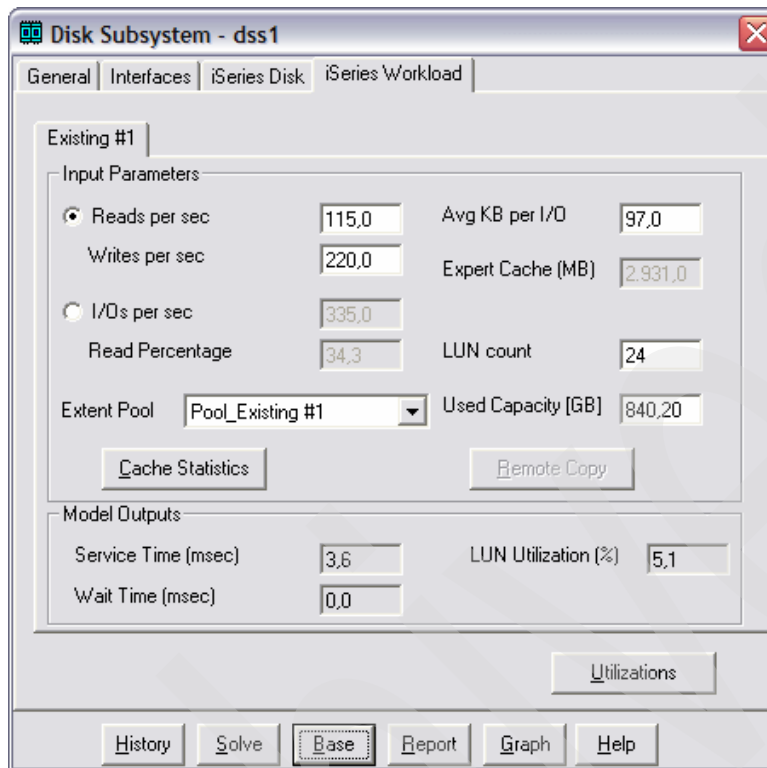

Figure 4-112 Modeled service and wait times
- h. On the Disk Subsystem - dss1 window, click **Base** to save the current model as base. After the base is saved successfully, notice the modeled disk service time and wait time, as shown in Figure 4-112.